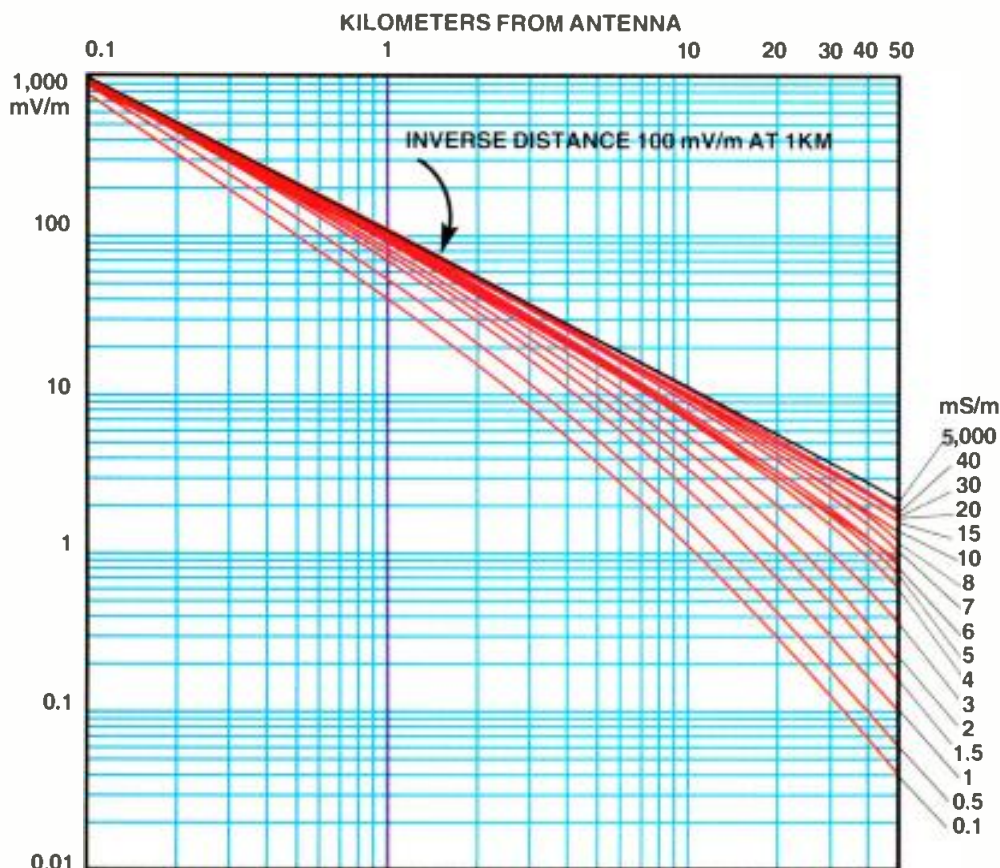

Figure 1. FCC log-log graph of groundwave field strength vs. distance for 660-680kHz. Values at right are ground conductivities in mS/m.
conductivity chart, and transfer it onto your graph paper. Note on the FCC chart that the vertical line representing 1km intersects this inverse distance curve at the 100mV/m level. (See Figure 1.) However, the transferred distance line most likely will not cross the 1km line at the 100mV/m point on *your* graph. Whatever value your graph's vertical axis shows at the point that the transferred inverse distance curve crosses the 1km line will be your radiation on that radial. After converting to miles, you can compare it with the proposed radiation in the original Form 301. Hopefully, it is whatever your original construction permit (CP) called for. (But don't count on it.)